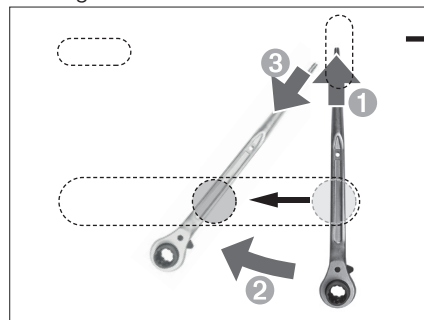

Fig. A4.15a
3. Remove the scaffold ratchet. (Fig. A4.15a)